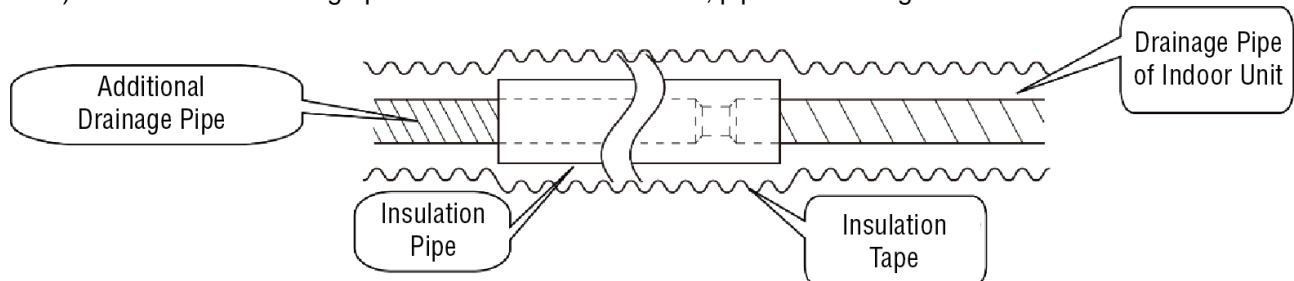

Fig. 9
3. Install the drainage pipe according to the following (Fig9) and attach the insulation to the drainage pipe. **NOTE:** Improper installation may lead to water leakage.